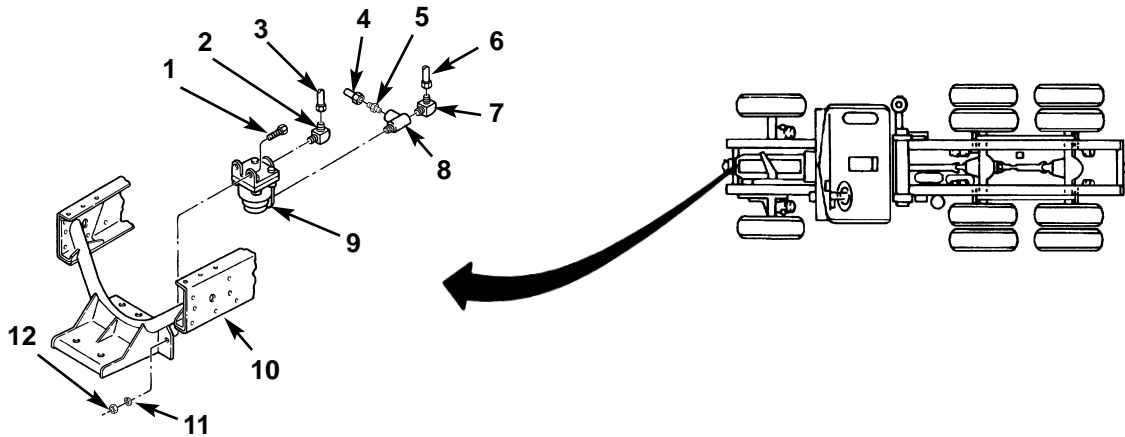

Figure 37. Removing Front Axle Ratio Valve.
14. Disconnect tubes (figure 37, items 3, 4, and 6) from elbow (figure 37, item 2), adapter (figure 37, item 5), and elbow (figure 37, item 7), and remove adapter (figure 37, item 5), elbow (figure 37, item 7), tee (figure 37, item 8), and elbow (figure 37, item 2) from ratio valve (figure 37, item 9).
15. Remove two locknuts (figure 37, item 12), washers (figure 37, item 11), bolts (figure 37, item 1), and ratio valve (figure 37, item 9) from crossmember (figure 37, item 10). Discard locknuts (figure 37, item 12) and ratio valve (figure 37, item 9).